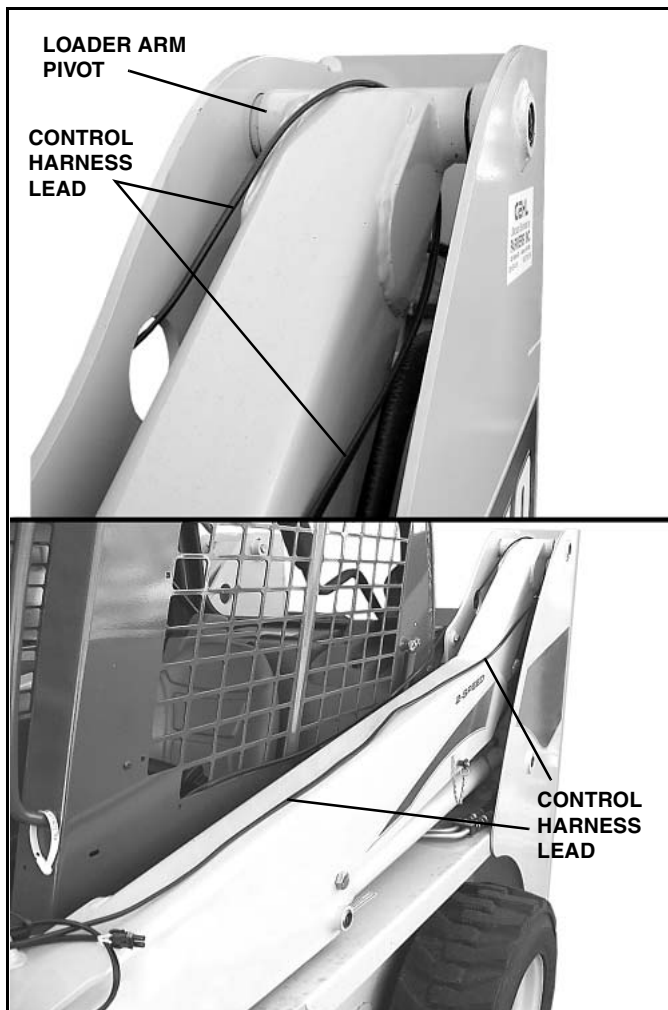
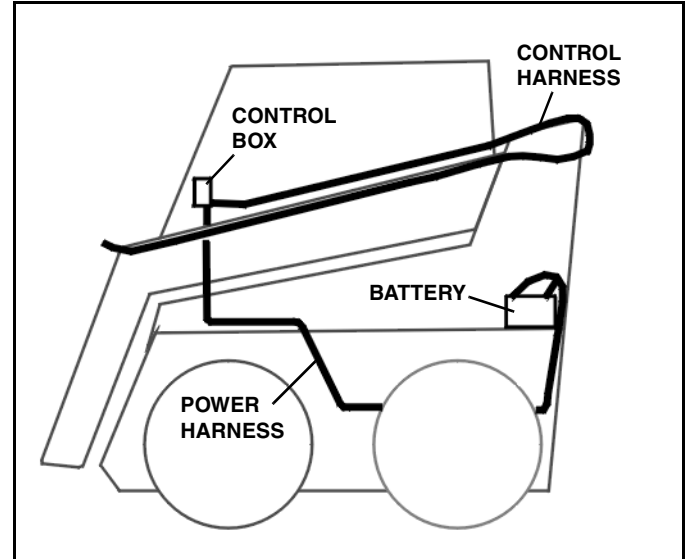

Figure 2-1
Figure 2-2
2. Route the Power Harness Lead to the battery (See Figure 2-2). Connect the YELLOW wire to the negative (-) battery terminal and the WHITE wire to the positive (+) battery terminal.
3. Route the Control Harness Lead around the pivot point on the loader arms on the back of the Skid Steer and down the top of the loader arms to the front. Allow enough slack when routing wire so that wiring is not put in tension when the loader arms are moved. Position the wiring to prevent pinching when loader arms pivot, and secure with cable ties. (See Figure 2-1) and (See Figure 2-2).